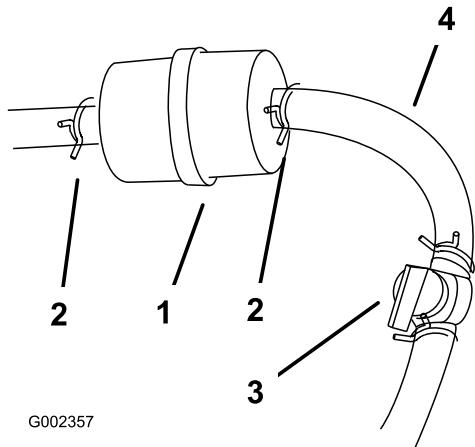

Figure 43
4. Close the fuel shutoff valve (Figure 43).
3. Close the fuel shutoff valve (Figure 43).
4. Loosen the hose clamp at the fuel filter and slide it up the fuel line away from the fuel filter (Figure 43).
5. Disconnect the fuel line from the fuel filter (Figure 43).
**Note:** Allow gasoline to drain into a fuel container can or drain pan (Figure 43).
7. Install the fuel line onto the fuel filter. Slide the hose clamp close to the fuel filter to secure the fuel line (Figure 43).
5. Squeeze the ends of the hose clamps together and slide them away from the filter (Figure 43).
7. Install a new filter and move the hose clamps close to the filter (Figure 43).